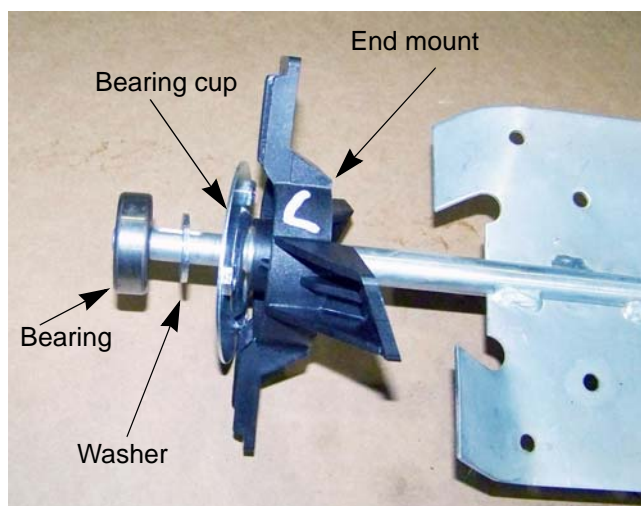

Figure 4.11
13. Slide the left bearing and bearing cup off of the auger shaft. See Figure 4.11.